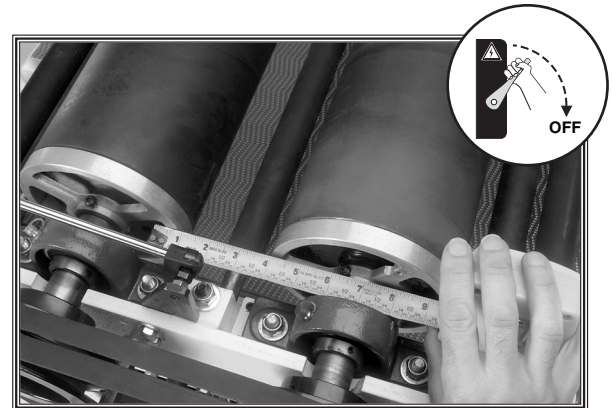

Figure 52. Measuring distance between rear and front drums.
8. Measure the distance between the rear and front drum, as shown in **Figure 52**, on both sides.